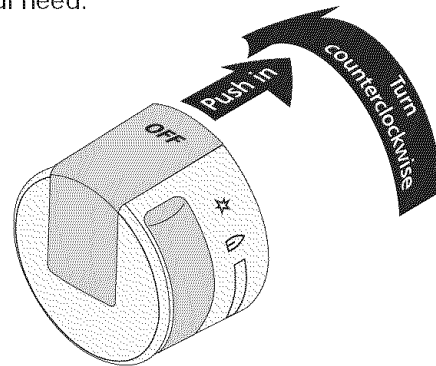

Fig. 1
1. Push the desired gas surface control knob in and turn counterclockwise out of the OFF position - Fig. 1.